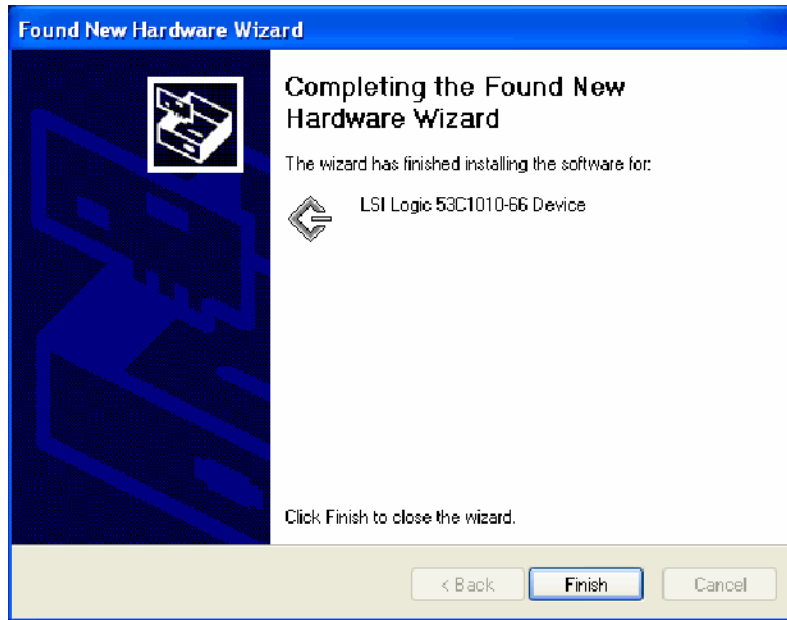

Figure 4: Completing the wizard
7. When the wizard dialog box shown in Figure 4 is displayed, click **Finish**.